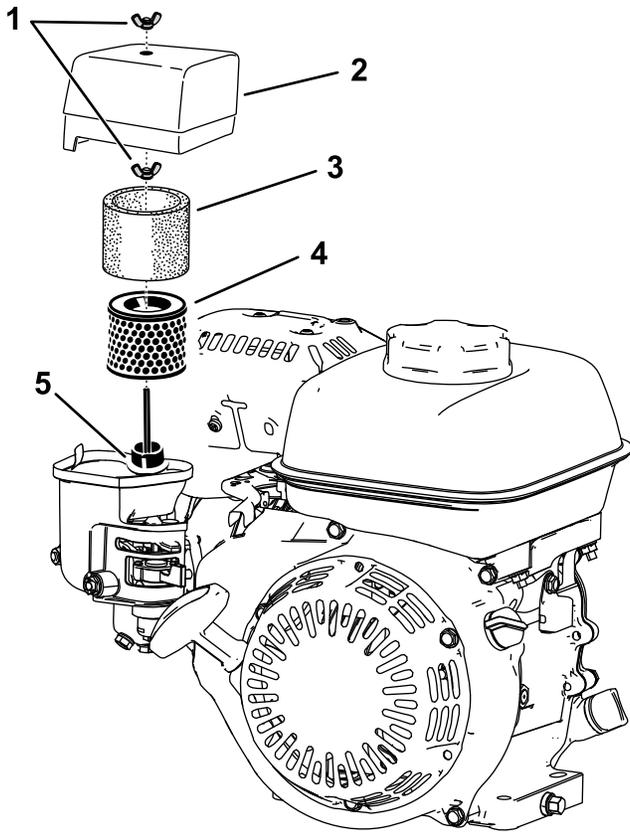

Figure 31
2. Remove the wingnut securing the air-cleaner cover (Figure 31).